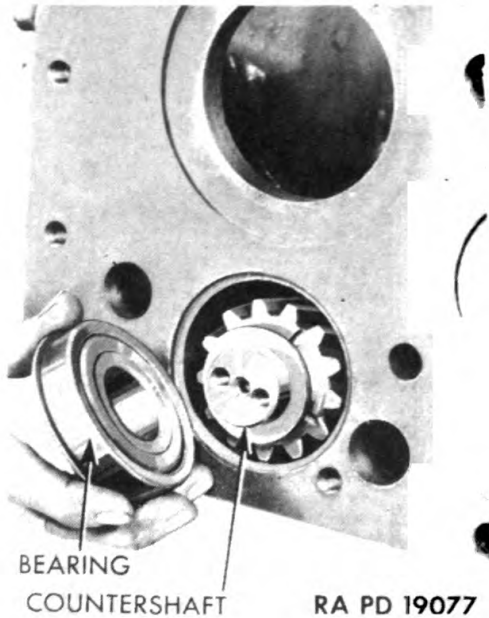
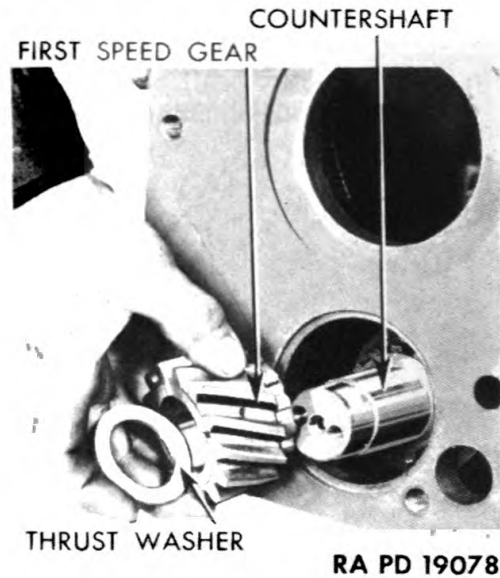

Figure 155 — Removing Countershaft Rear Bearing
Figure 156 — Removing Countershaft First Speed Gear
p. Remove Transmission Countershaft and Gears. Remove lock wire from two cap screws at rear end of countershaft. Remove both cap screws and rear bearing retaining washer. Slide countershaft assembly toward rear until free of case, then pull bearing from countershaft (fig. 155). Remove countershaft first speed gear thrust washer and first speed gear which is free on shaft, from shaft (fig. 156). Lift countershaft assembly out of case, raising front end first (fig. 157). Drive or press countershaft front bearing out of case.